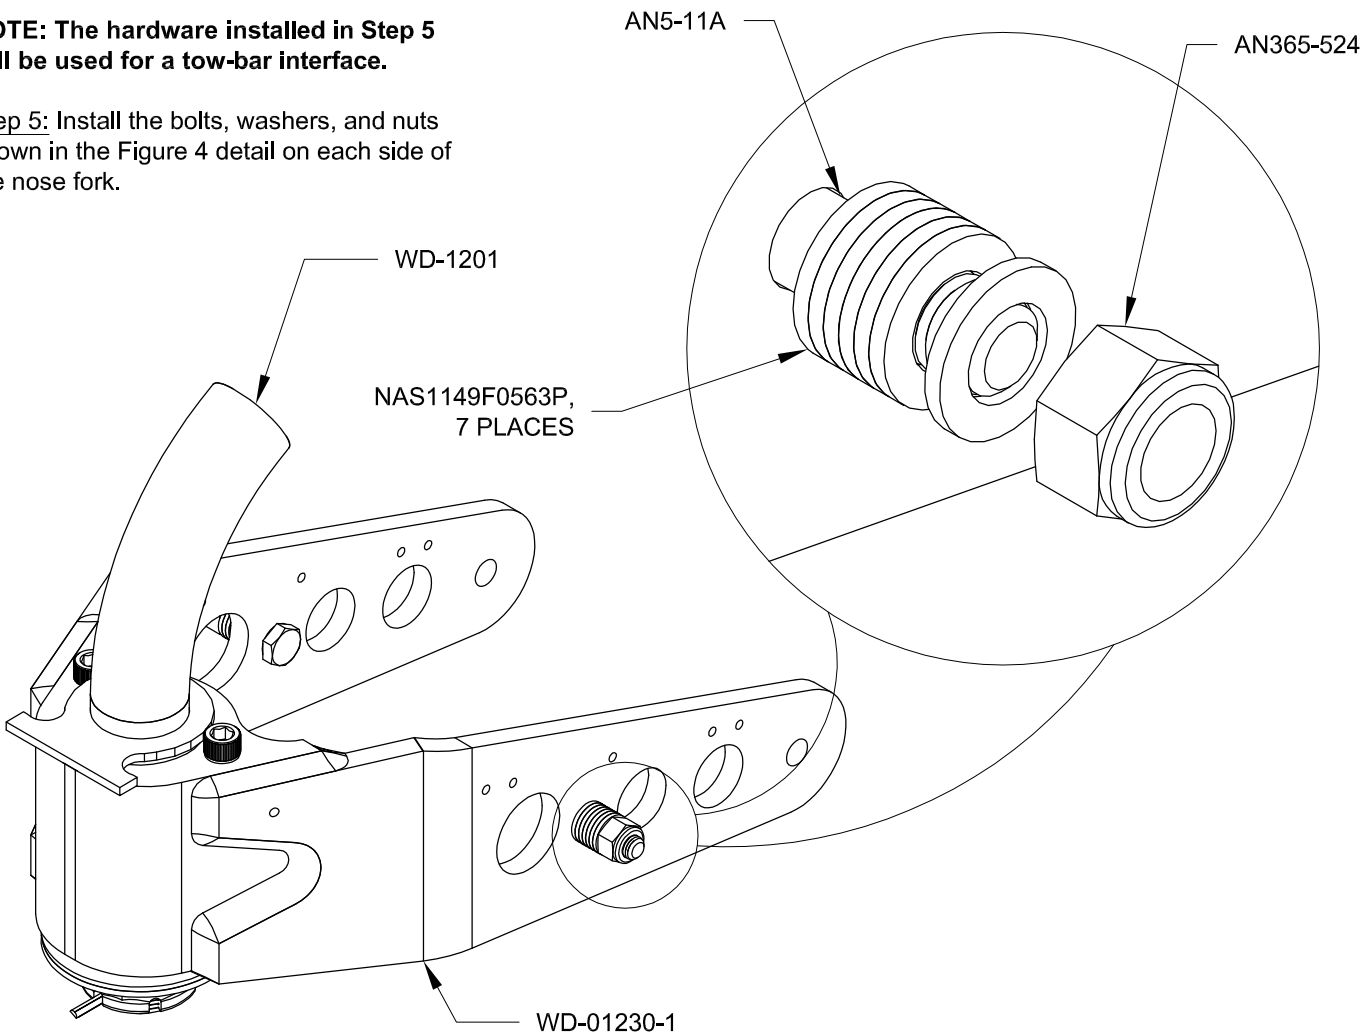

FIGURE 4: ADDING HARDWARE TO NOSE FORK
Step 5: Install the bolts, washers, and nuts shown in the Figure 4 detail on each side of the nose fork.